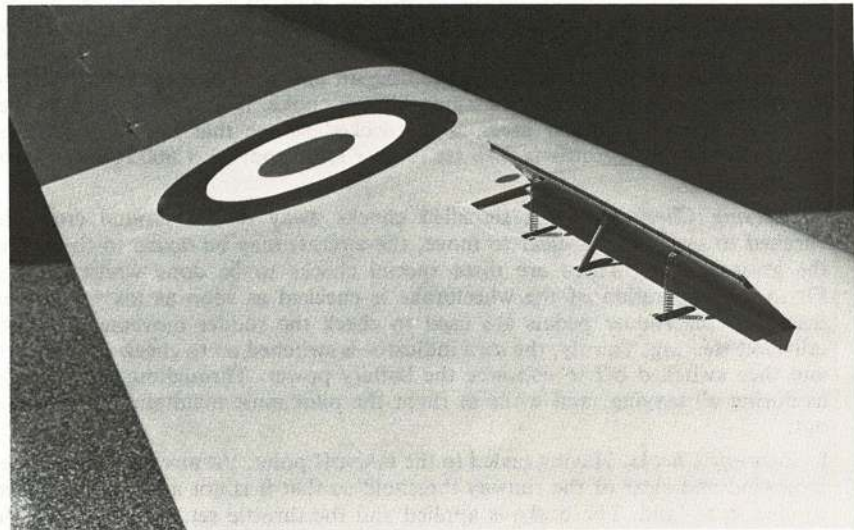

Fig 40 Spoiler open
11. The flying controls are conventional, but only the elevators can be trimmed in flight. This means that a little left rudder has to be held on to balance the aircraft when the engine is at full power in the climb (3,200 rpm). Balanced flight is maintained by reference to the ball in the turn and slip indicator. The ball indicates that the aircraft is being flown out of balance if it is off centre. If, for instance, the ball floats out to the right the pilot brings it back by applying and holding a little right rudder. The rudder pedals themselves Fig 30, are not adjustable and short students have to be provided with cushions so that they can apply full rudder when necessary. There are spoilers, Fig 40, but no flaps. The spoilers are operated by a lever, each pilot having his own control. These can be seen in Fig 29. The spoilers are spring loaded to the closed position and have to be held open when in use. This means that on final approach a pilot must keep one hand on the control column and the other on the spoiler operating lever.